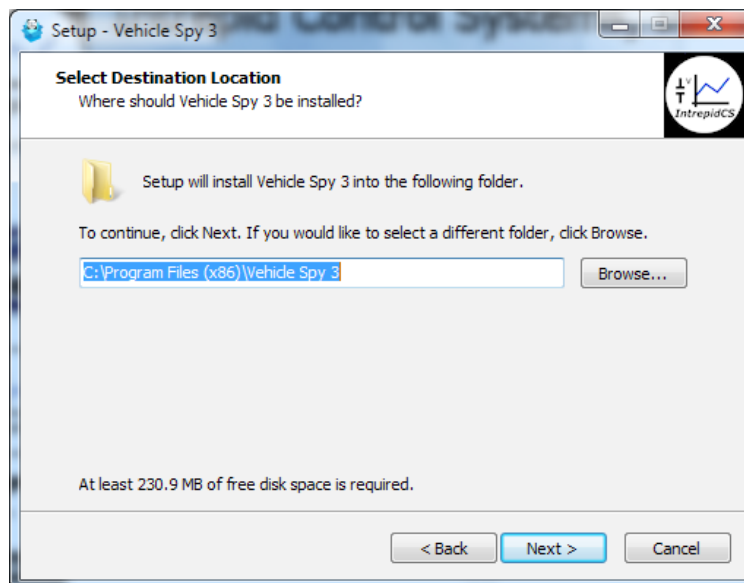

Figure 22: Choosing the Destination Location.
7. **Select Destination Location:** Choose where you want to install Vehicle Spy 3 (Figure 22). We normally recommend using the default location. Click .